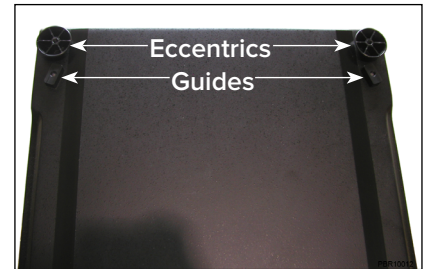
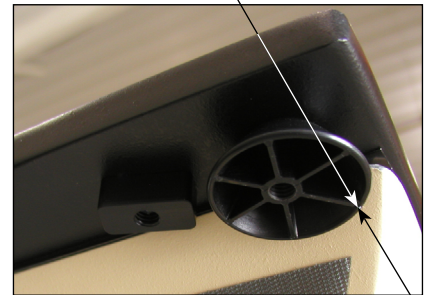

Fig. 17
Fig. 18
1. Looking at the Eccentrics from below (Fig. 17) rotate them until the CT cradle holds the CT Overlay firmly centered and also slides on/off the CT cradle (Fig. 18).